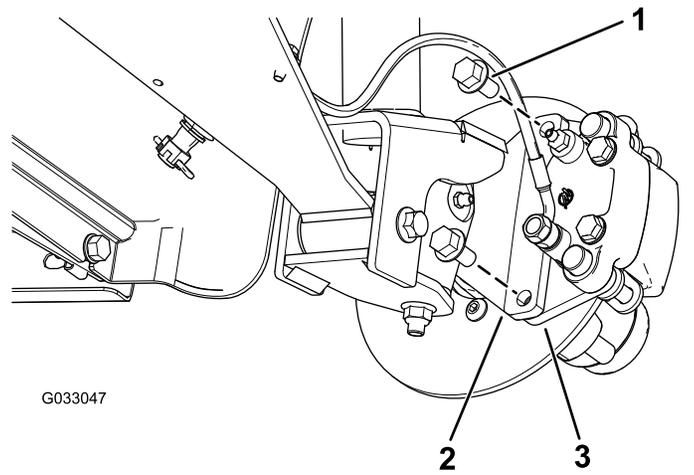
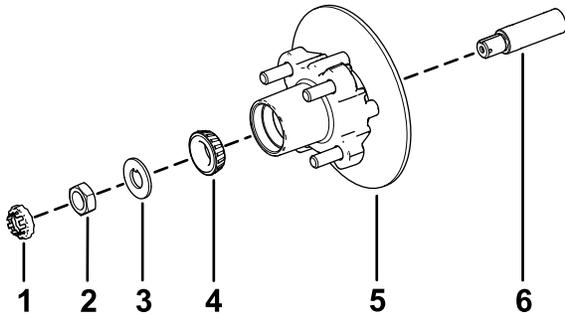

Figure 33
Figure 37
3. Remove the flange-head bolts (3/8 x 3/4 inch) that secure the bracket for the brake assembly to the spindle and separate the brake from the spindle (Figure 33).
1. Apply a light coat of the specified grease to the spindle (Figure 37).
2. Assemble the hub and rotor onto the spindle with the rotor inboard (Figure 37).
3. Assemble the outboard bearing onto the spindle and seat the bearing to the outboard race (Figure 37).
4. Assemble the tab washer onto the spindle (Figure 37).
5. Thread the spindle nut onto the spindle and tighten the nut to 15 N·m (11 ft-lb), while rotating the hub to seat the bearing (Figure 37).
2. Align the brake pads to either side of the rotor (Figure 33) and the holes in the caliper bracket with the holes in the brake mount of the spindle frame (Figure 37).
3. Secure the caliper bracket to the spindle frame (Figure 33) using the 2 flange-head bolts (3/8 x 3/4 inch).